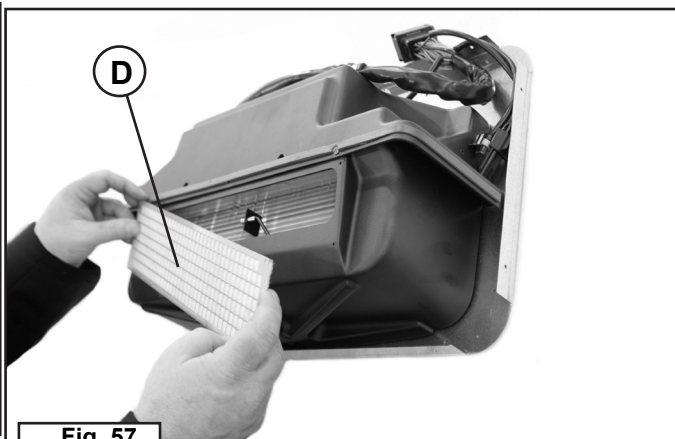

Fig. 57
7	Remove and replace the filter (D) (fig. 57).
Fig. 57 b